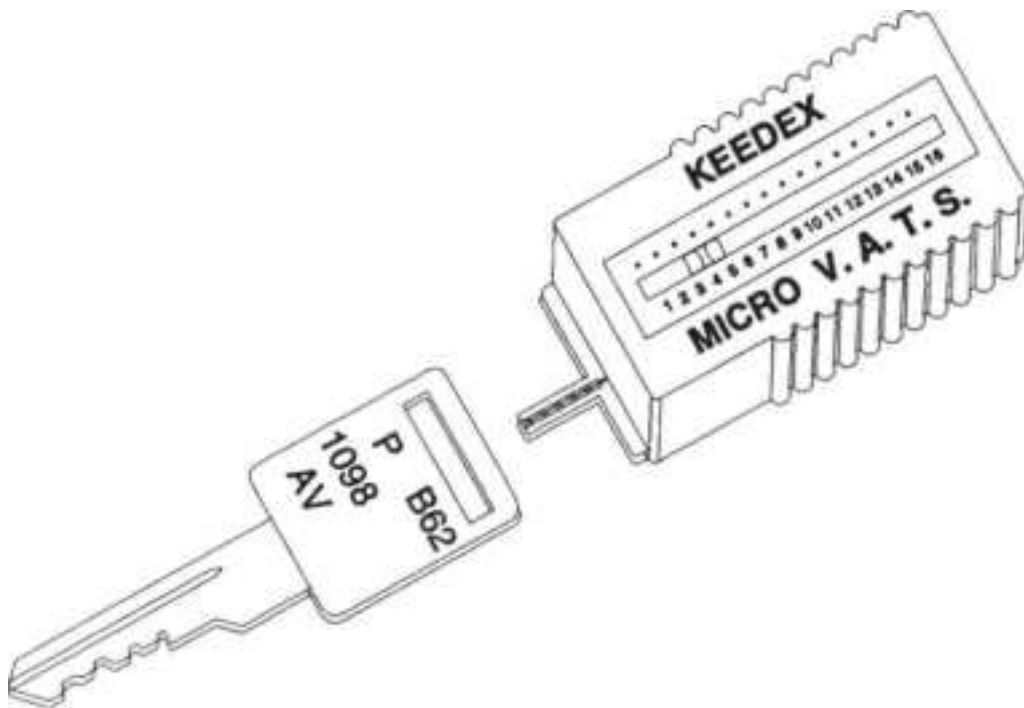

**Figure 2.34** A VATS/PASSKey decoder lets locksmiths quickly determine the electrical resistance values of VATS/PASSKey key blanks. (*Keedex Mfg .*)
- VATS/PASSKey decoder or key analyzer (Fig. 2.34 )